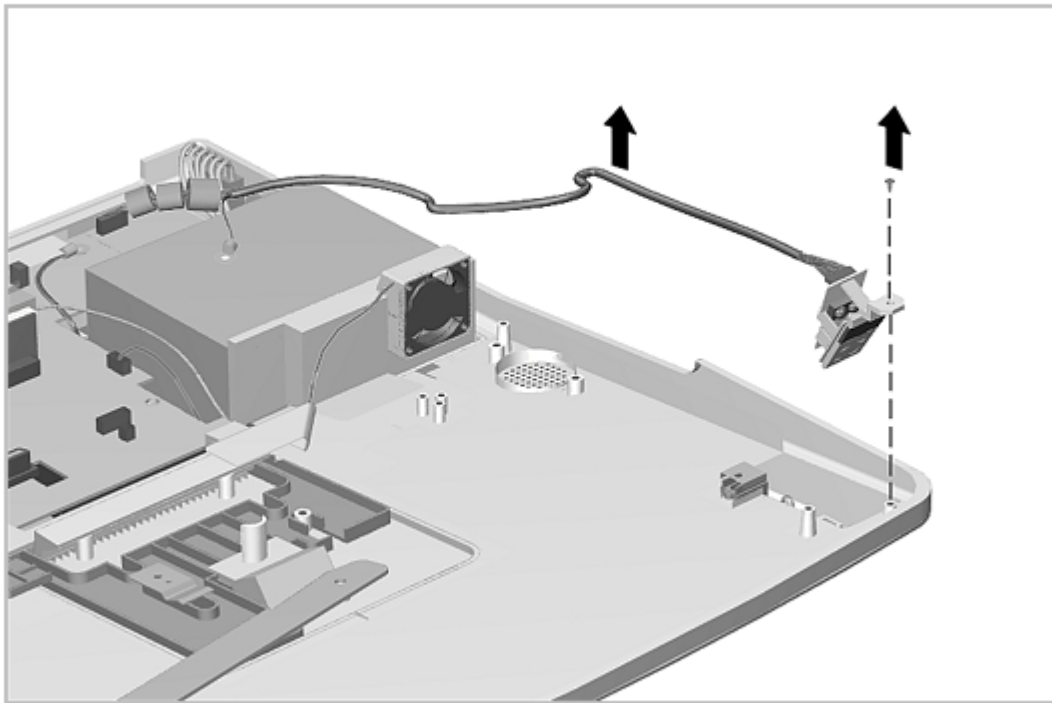

Figure 7-30. Removing the IrDA Board
4. Remove the screw holding the IrDA board in place and lift the board out (Figure 7-30).